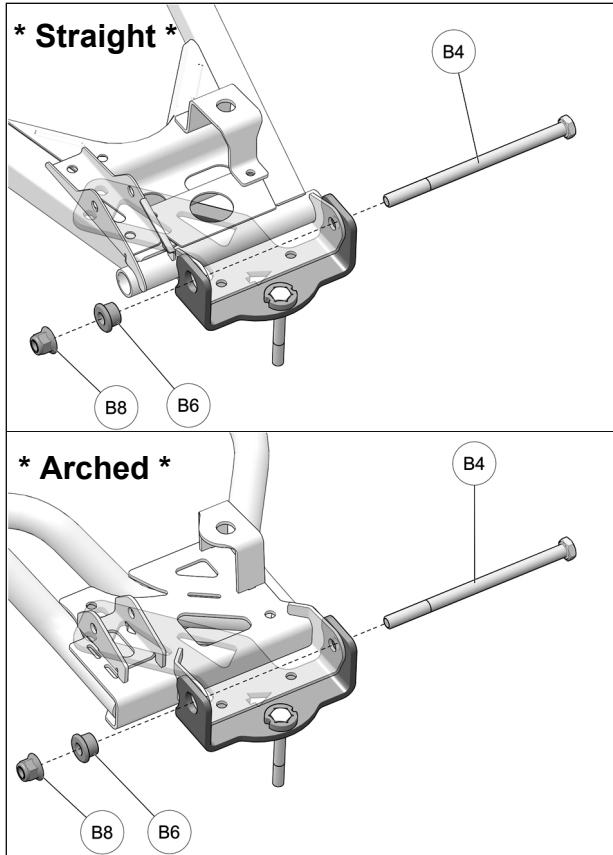

Fig. 8
7. Align anchor bracket holes with suspension arm holes. Install flange bushing (B6) in bracket and suspension arm. Slide the new M12x190 mm assembly bolt (B4) through anchor bracket, suspension arm, wheel hub, and flange bushing. Thread M12 nut (B8) on bolt but do not tighten immediately. See Fig. 8